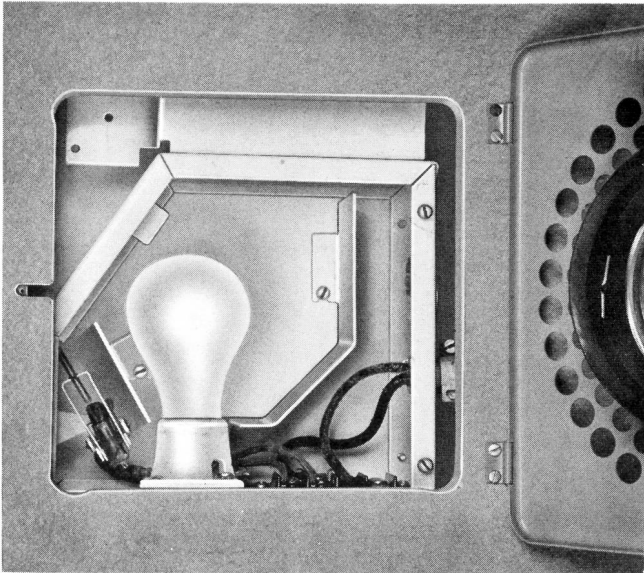

Fig. 6 — 4A Light Fixture
3.01 The 4A light fixture is used in the 9-, 10-, and 11-type booths and serves as a junction point for supplying power to a blower directory light, telephone sign, and adjacent booths (Fig. 6).